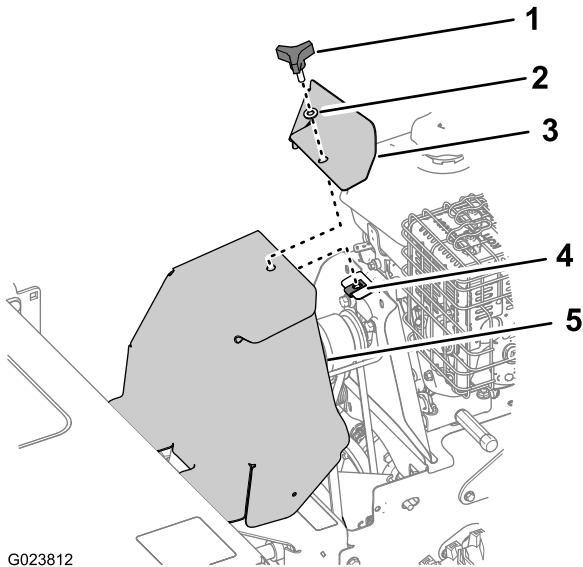

Figure 38
1. Remove the knob and washer that secures the engine cover and the belt cover to machine (Figure 38).
3. Align the belt cover and the engine cover to the machine and the plate nut (Figure 38).
4. Secure the belt cover and the engine cover to the machine with the knob and washer (Figure 38).